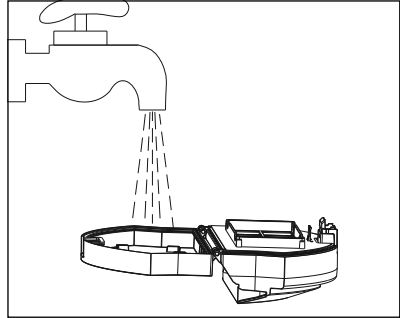

Fig. 12
- 6) Clean the dust container **16** and the sieve filter with cold or lukewarm water (see Fig. 12). Allow the dust container **16** and sieve filter to air dry completely before reinserting the dust container **16** into the appliance.